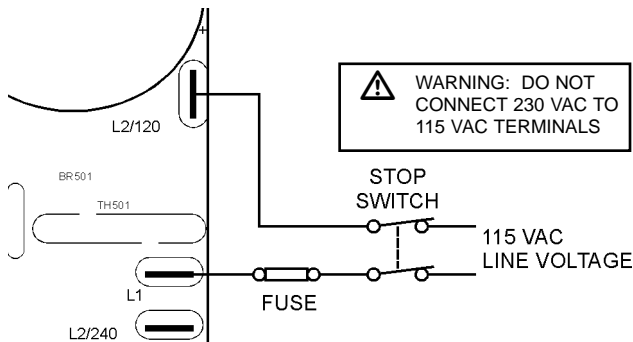
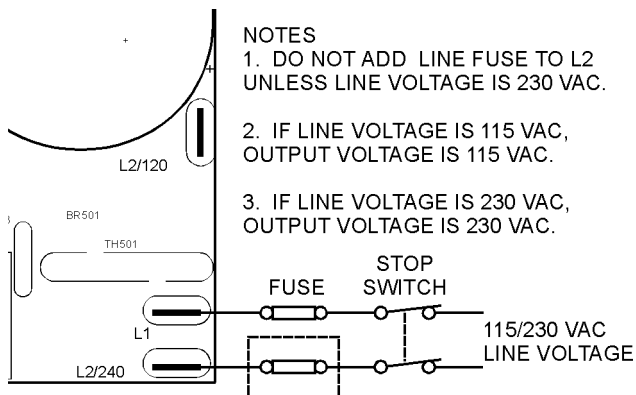

Figure 7. AC Line and Fuse Connections for MMVFDxx-D230AC Series Drives (Voltage Doubler Mode)
Figure 8. AC Line and Fuse Connections for MMVFDxx-D230AC Series Drives (No Voltage Doubler)
Connect AC power input to L1 and L2 as shown in Figure 7 or Figure 8 (page 14), depending on your power needs.
- If the input voltage is 115 VAC and the desired output voltage is 230 VAC (voltage doubler mode), connect L1 and L2/120 as shown in Figure 7. Do not add a line fuse to L2.
- If the input voltage is 115 VAC and the desired output voltage is 115 VAC (no voltage doubler), connect L1 and L2/240 as shown in Figure 8. Do not add a line fuse to L2.
- If the input voltage is 230 VAC and the desired output voltage is 230 VAC (no voltage doubler), connect L1 and L2/240 as shown in Figure 8. Add a line fuse to L1 and L2/240. **Do not use the voltage doubler with 230 VAC line voltage.**
Refer to Figure 7 (page 14) for connection information. Use extreme caution when connecting this feature. Incorrect use of this feature may result in fire and serious injury.